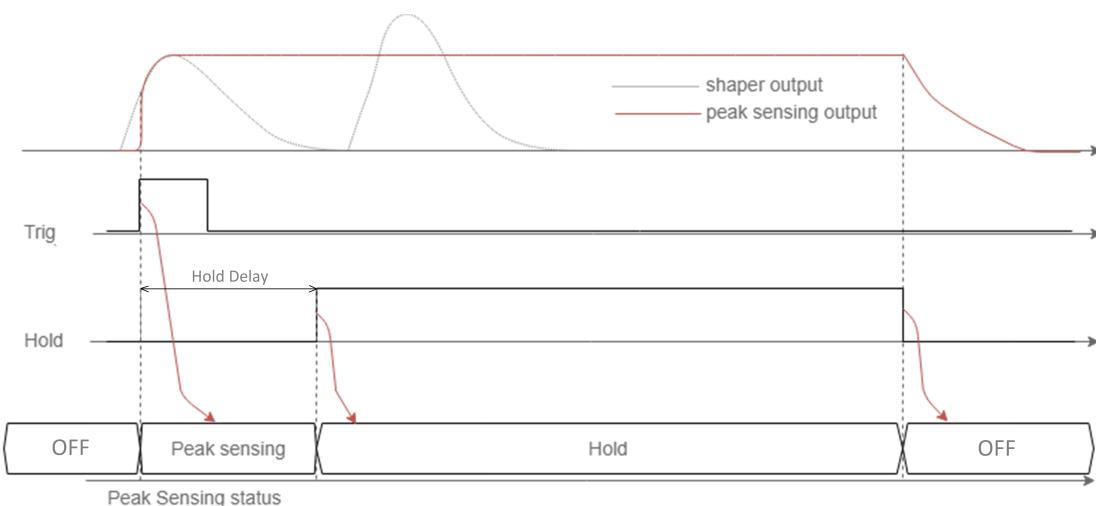

Fig. 8.5: Peak detector chronogram.
The peak detector acquisition sequence works in 3 phases (see also Fig. 8.5):
2. **Peak Sensing Phase:** in this mode, the peak detector memorizes the maximum of the input signal. That mode is kept until the internal logic provides a rising edge on the Hold signal, as it is shown in Fig. 8.5, the Peak Detector switches to Hold Phase when that signal occurs. The time distance between the trigger and the Hold signal is defined by the Hold Delay (see Sec. 9.2.2) parameter (programmable).